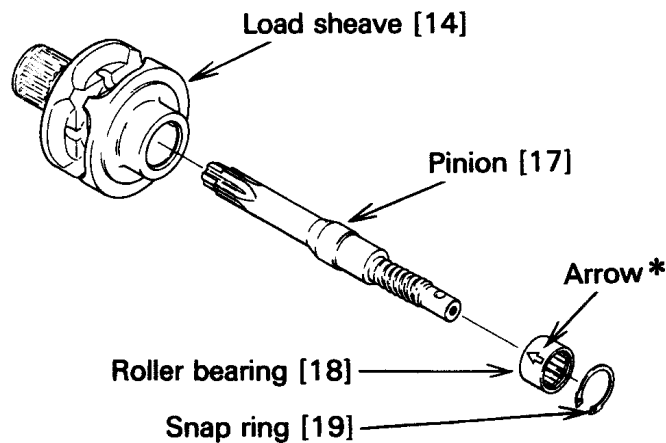

Figure 6-1 Load Sheave/Pinion Assembly
***NOTE:** The arrow* on the outer side of the roller bearing should face the gear side. When inserting, use a screwdriver on the bearing and tap it with a rubber mallet. See Fig. 6-1.